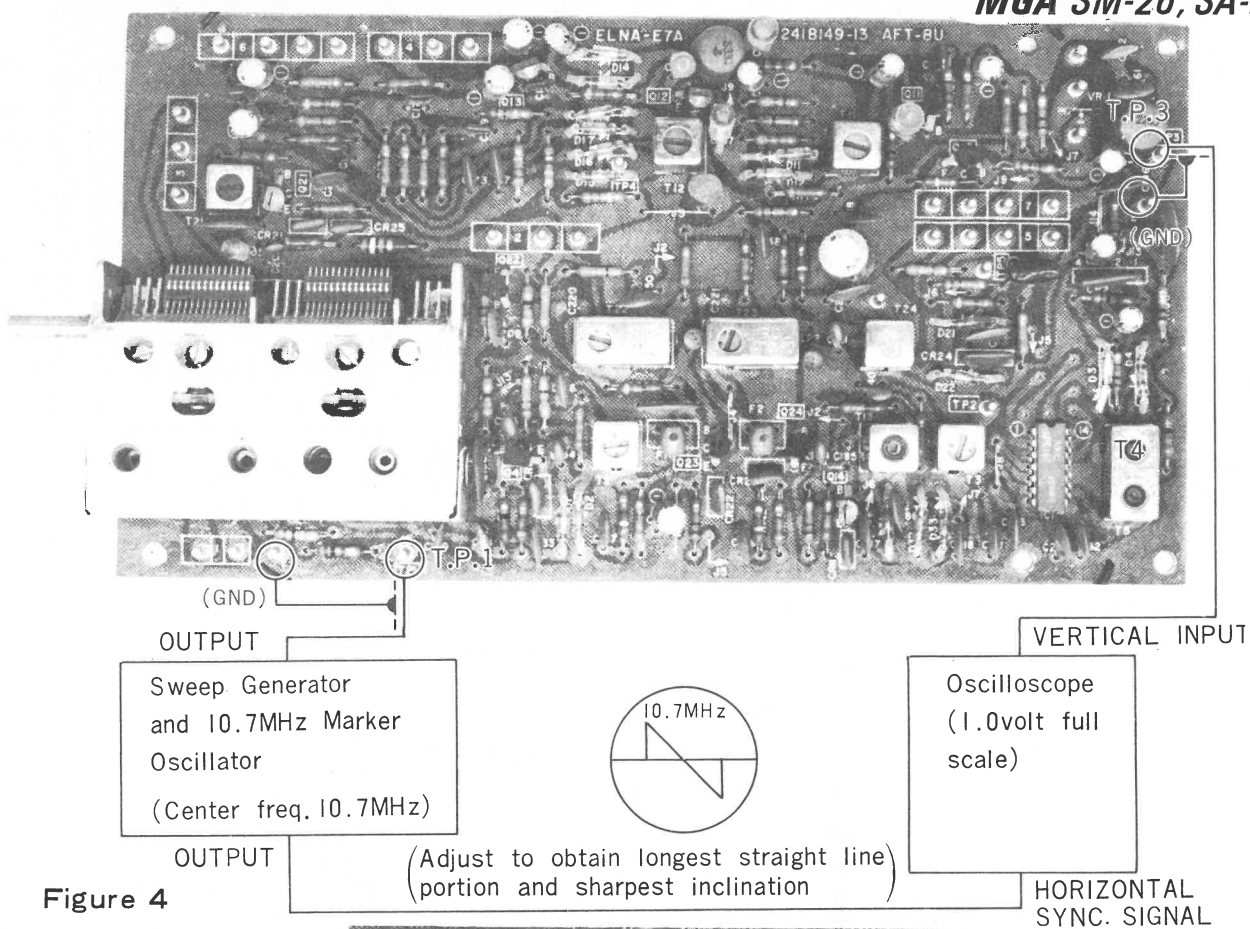

Figure 4
- 1) Connect 10.7 MHz sweep generator output to Test Point 1. (TP 1) See Figure 4.
former T 4 to obtain symmetrical Z curve and maximum gain on scope. See Figure 4.